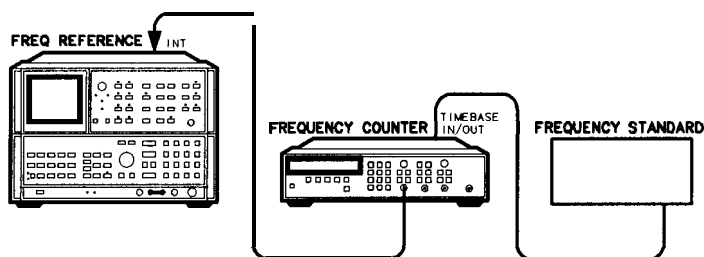

Figure 3-54. 10 MHz Frequency Standard Adjustments Setup
3. Connect the (Cesium Beam) Frequency Standard to the Frequency Counter rear-panel TIMEBASE IN/OUT connector as shown in Figure 3-54.
11. Position the spectrum analyzer on its right side as shown in Figure 3-54, and remove the bottom cover. Typically, the frequency of the A22 10 MHz Frequency Standard will shift slightly when the spectrum analyzer is reoriented. Record this shifted frequency of the A22 10 MHz Frequency Standard.